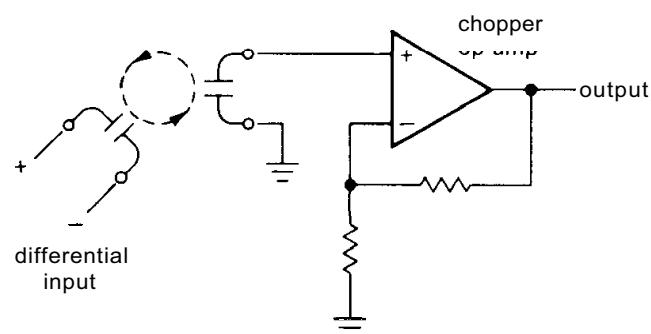

Figure 7.23. ICL7605 flying-capacitor differential amplifier with high CMRR.
- **Instrumentation amplifier.** Another "chopper" technique in use is the so-called "commutating auto-zeroing" (or CAZ) amplifier, originated by Intersil. In this technique, typified by the ICL7605 flying-capacitor instrumentation amplifier, MOSFET switches enable you to store the differential input signal across a capacitor, then amplify it with a single-ended chopper-stabilized amplifier (Fig. 7.23). You get charge-coupled spikes at the clock rate, just as with the standard auto-zeroing amplifier, which puts the same sort of limitations on the CAZ technique as we saw earlier. Although we raved about CAZ amplifiers in our first edition ("...stands a good chance of revolutionizing precision op-amp and instrumentation amplifier technology"), they've been finessed by the better auto-zeroing technique in which the signal always passes through a single amplifier.